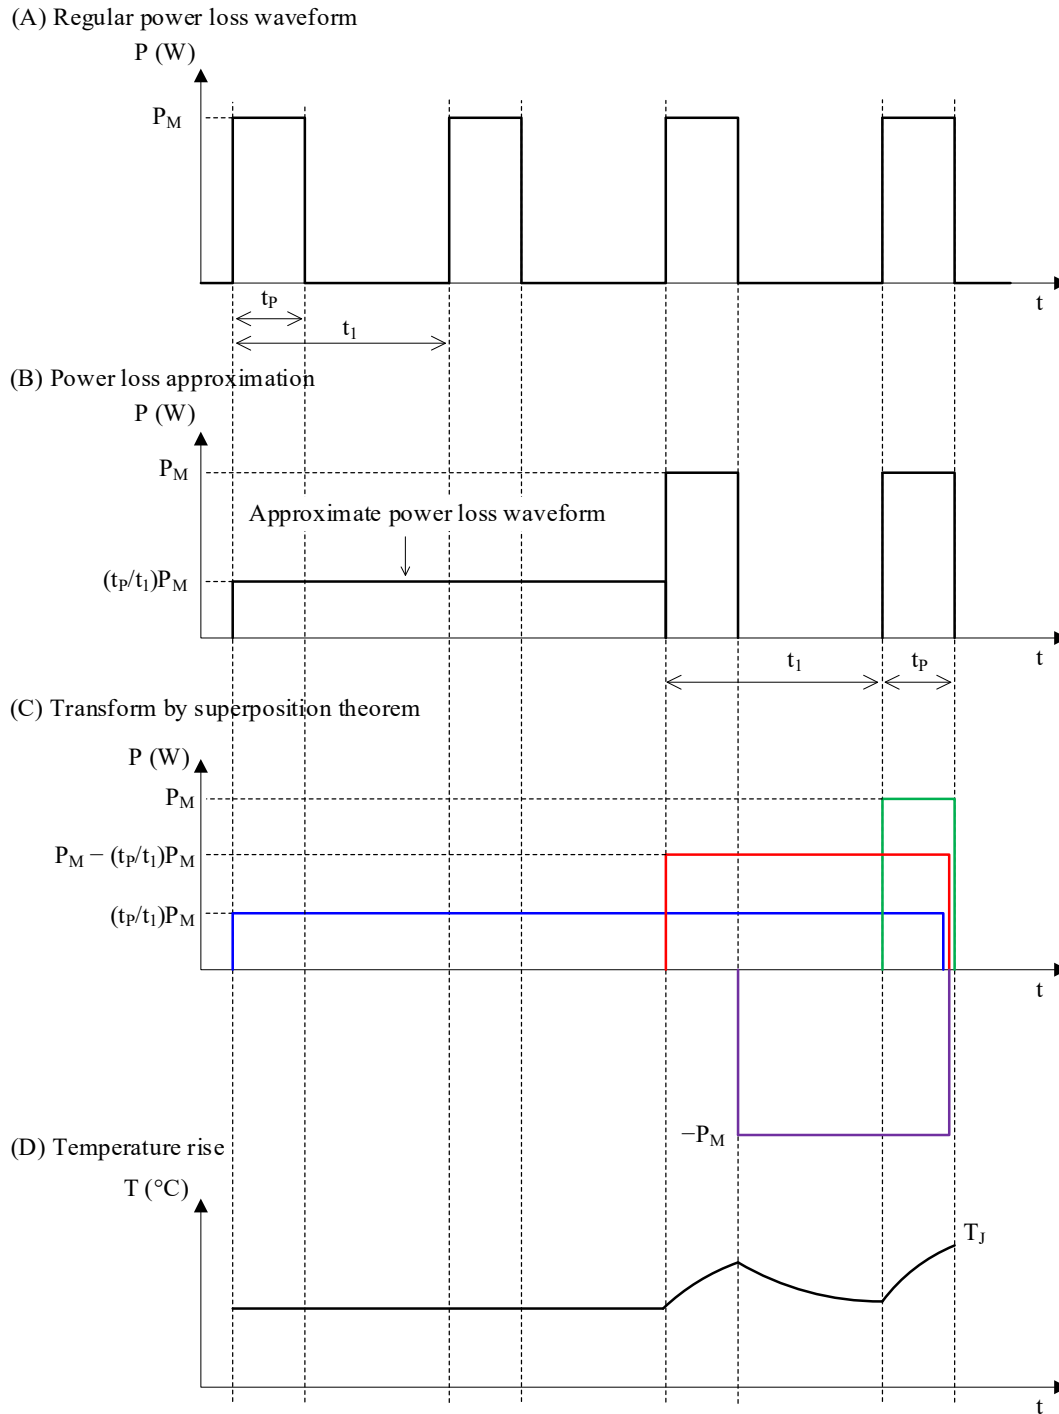

Figure 3-3. Superposition Theorem
(A) in Figure 3-3 shows the calculation of the junction temperature,  $T_J$ , when a regular square wave power loss occurs in the power MOSFET/IGBT. To easily calculate  $T_J$ , assume that power losses for two cycles occur in the average power loss over the entire period.
As shown in (B) and (C) in Figure 3-3,  $T_J$  is calculated by approximating the power loss and using the superposition theorem.
Next, the junction temperature is calculated for each block in (C) in Figure 3-3.